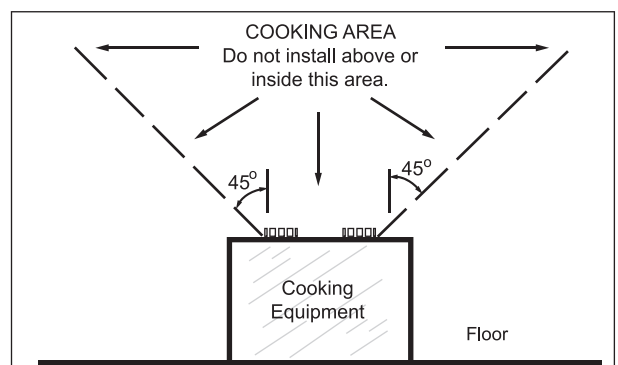

Fig 1
- Not for use in cooking area. (See Fig 1)